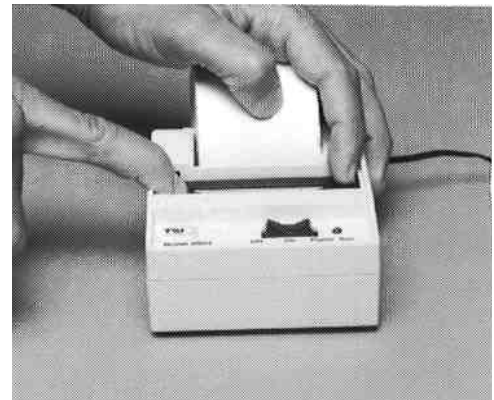

Figure VIII-3. Installing the cartridge ribbon
Step 3. Install the new cartridge ribbon. Be sure the cartridge is inserted firmly to prevent weak or irregular printing. For best printing results, be careful to properly seat and align the cartridge (fig. VIII-3).